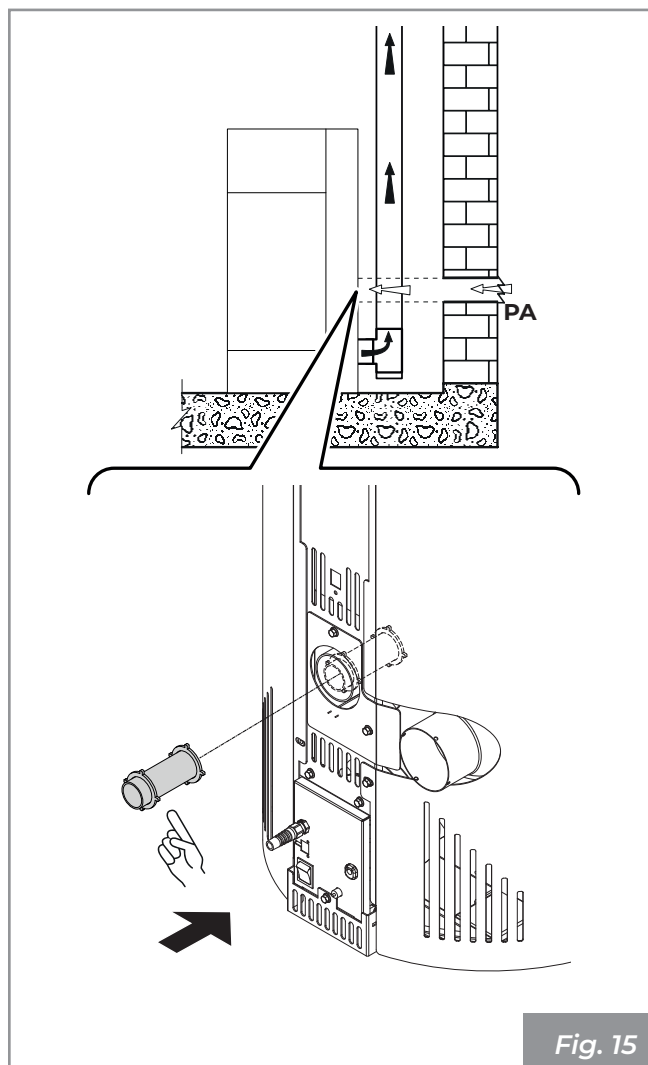

Fig. 15
- it can come from the installation room or suitable adjacent rooms (**Fig. 15**)
Create the air intake on the wall (**Fig. 15 - PA = Air Intake**), and leave the appliance to withdraw the room air, making sure to connect the provided pipe on the air inlet pipe, to prevent any resonance effects.